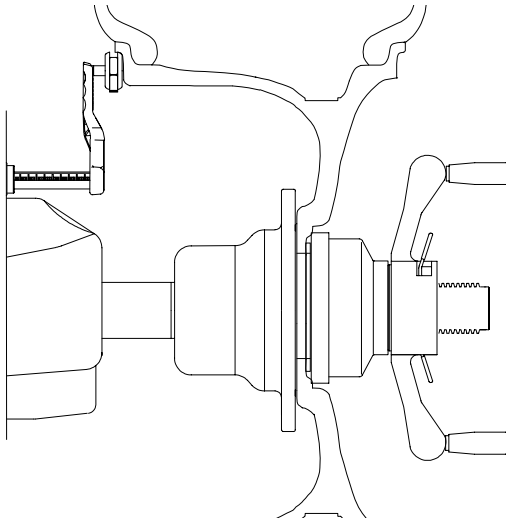

Figure 22
**4.5.1 Rim Distance (offset)** - Move the rim offset arm to the edge of the rim, touch the pointer to the rim edge as illustrated in Figure 22 and hold steady for about a second. The beeper will sound when the distance values are calculated and entered automatically. Return the arm to its fully in and down position on the balancer. Do not allow the measurement arm to "dangle" down in front of the balancer.